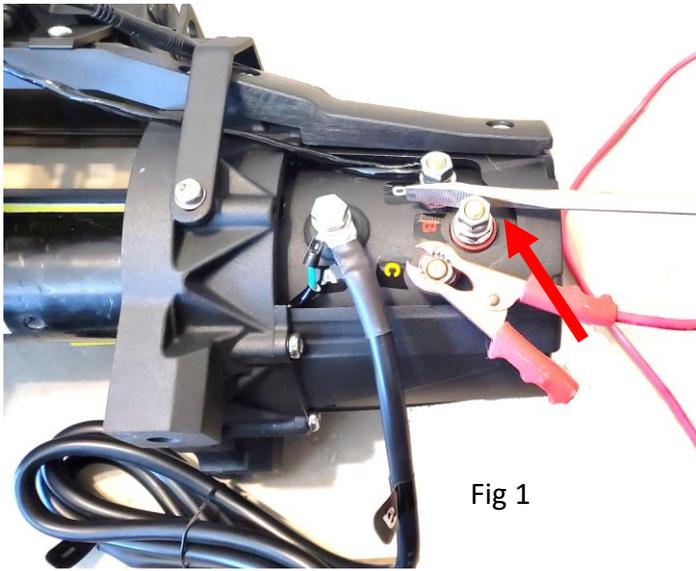

Fig 1
Step 3: Using a jumper cable from the positive battery terminal to terminal C (yellow) on the motor. Take care that jumper cable does not contact motor housing. Then using a screwdriver. Jumper the B (red) and the D (black) terminal. Motor should power one direction. Fig 1.